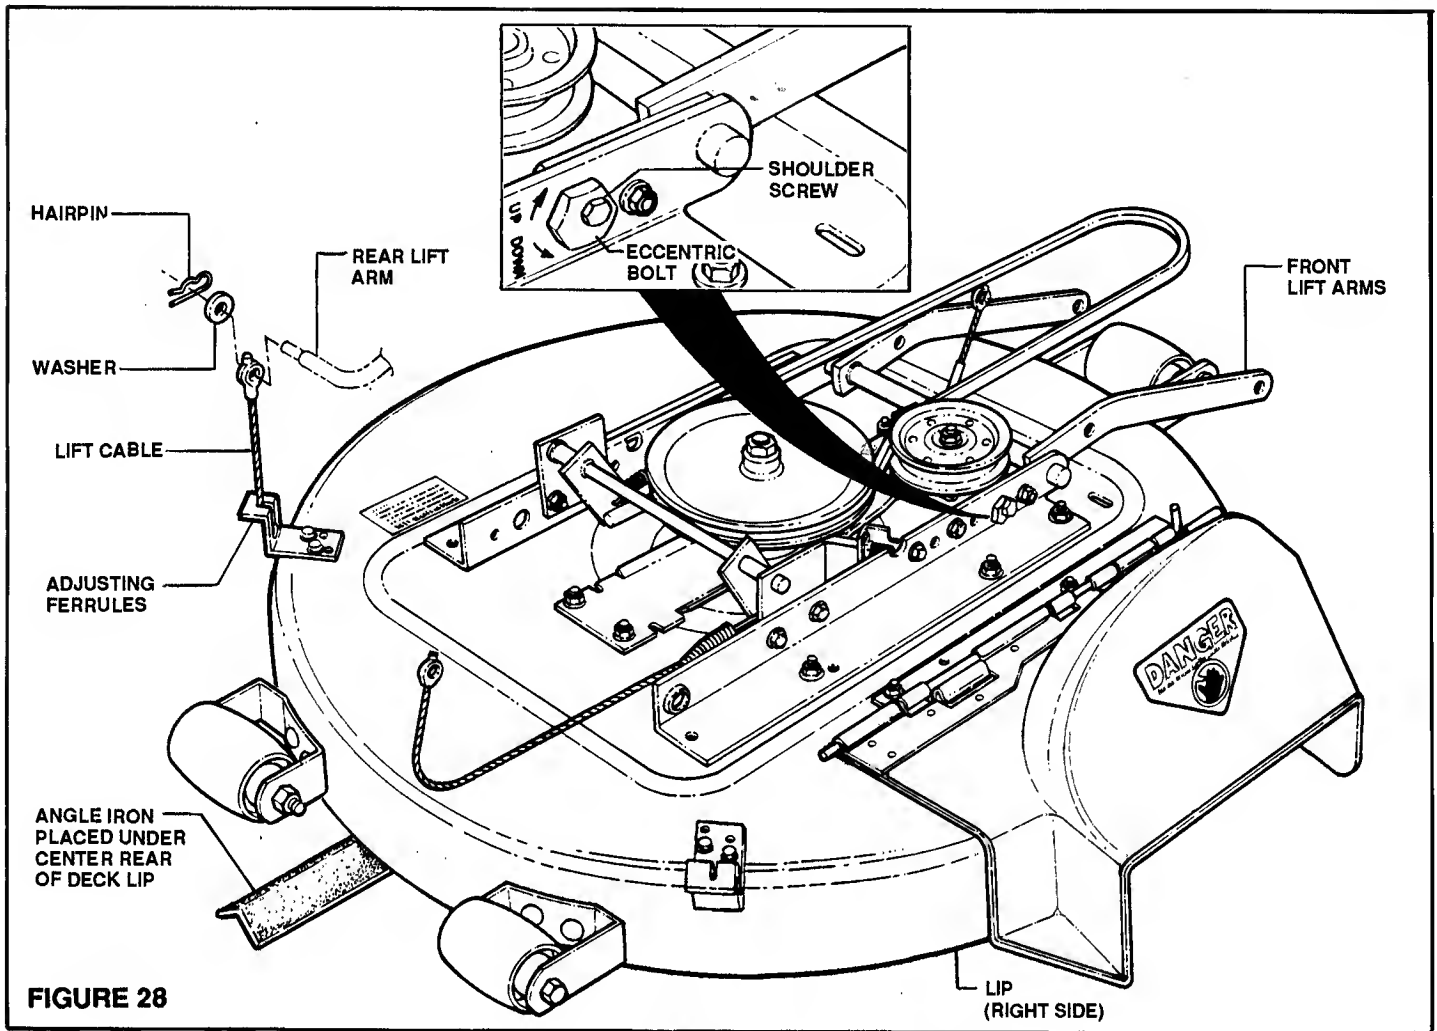

FIGURE 28
- (1) Place a piece of angle iron under lip at center rear of deck. See Figure 28 on Page 13.
- (2) Pull the pins and remove the LIFT CABLES from the REAR LIFT ARMS.
- (3) Measure distance between deck lip (at center of left side) and the floor surface. Compare to the distance from right side deck lip to floor.
- (4) If required, adjust side-to-side level of mower deck by loosening SHOULDER SCREW on side of lift arm ECCENTRIC BOLT. See Figure 28.
- (5) Turn the ECCENTRIC BOLT "UP" or "DOWN" to level deck within 1/8" side-to-side.
- (6) When deck is level, tighten SHOULDER SCREW.
- (7) Re-attach LIFT CABLES to REAR LIFT ARMS.
- (8) If either LIFT CABLE is slack, adjust FERRULES until both cables have equal tension. Recheck deck level. See Figure 28.